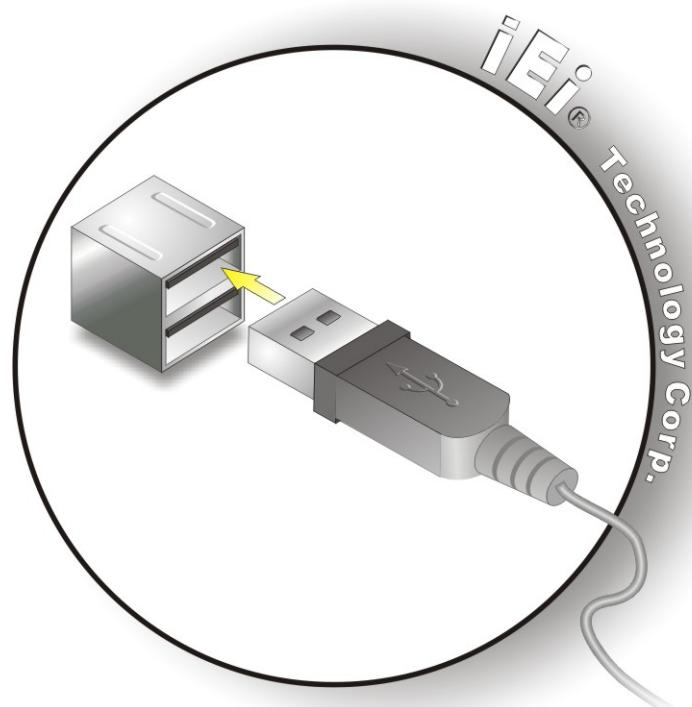

Figure 4-20: USB Connector
Step 2: Insert a USB Series "A" plug. Insert the USB Series "A" plug of a device into the USB Series "A" receptacle on the external peripheral interface. See Figure 4-20.